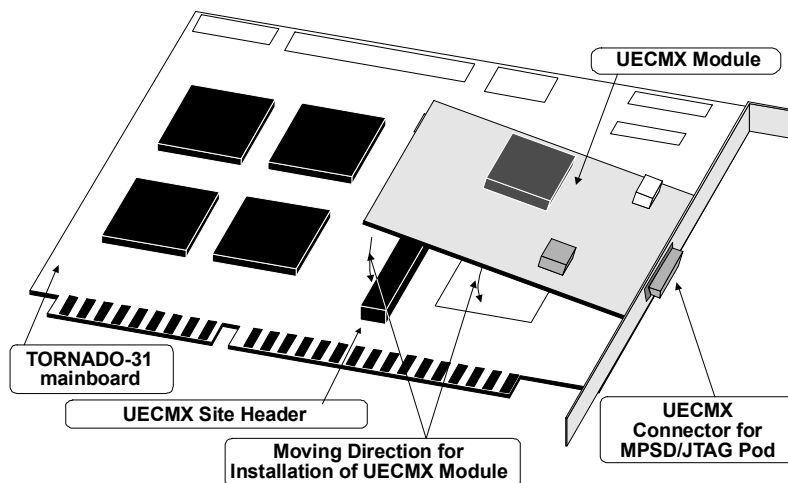

Fig.3-2. Installation of *UECMX* module onto *TORNADO*-31 mainboard.
*UECMX* module installs into the dedicated on-board connector site onto *TORNADO* DSP system mainboard (see fig.2-3 and fig.3-2).